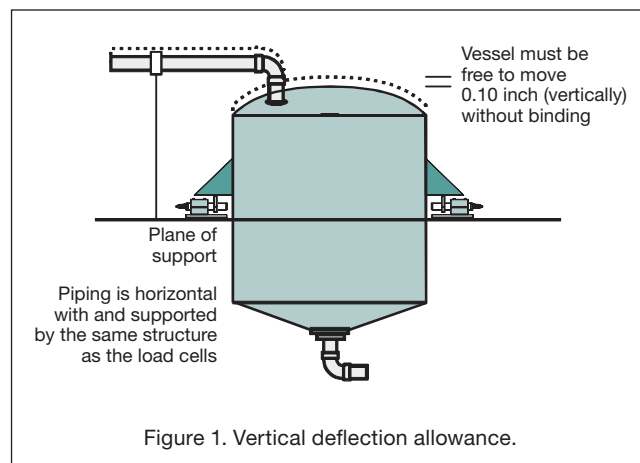

Figure 1. Vertical deflection allowance.
In order to measure properly, a load cell or weigh module must be free to deflect in the range of .008 to .10 inches without binding (Figure 1). Therefore, the most basic mechanical inspection should include careful evaluation of through-floor mountings, connected piping, conduits, and vertical vent lines. Also, weigh modules are designed to accommodate vessel thermal expansion and contraction without applying axial or side loads to the measurement element. Therefore, all yokes or slide plates should be in a non-binding orientation at operating temperatures.
- 1) Routine mechanical inspection should include visually checking for any kind of obstruction that could inhibit free vertical movement of the vessel or weighed structure over a range of approximately 0.10 inch (Figure 1). This should include checking for dirt, ice or other solid materials building up underneath the weigh module transducer. Also, although load cells are well sealed against moisture, it is important that they not be submersed in standing water for long periods of time.